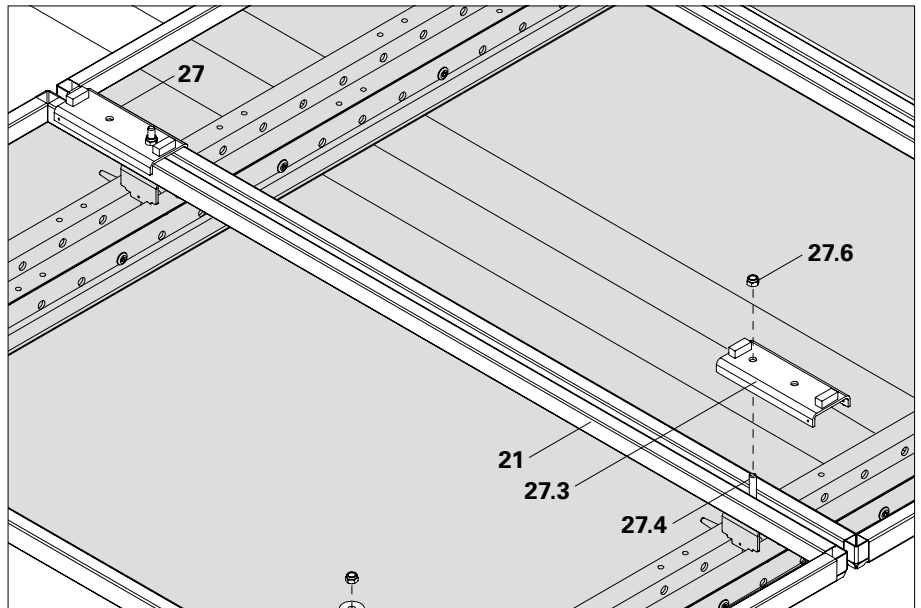

Fig. C1.24
2. Position Screen Element (21) on Distance Piece.
4. Secure long Clamping Plate with Nut (27.6) M20x8. Tightening torque 80 Nm. (Fig. C1.24)